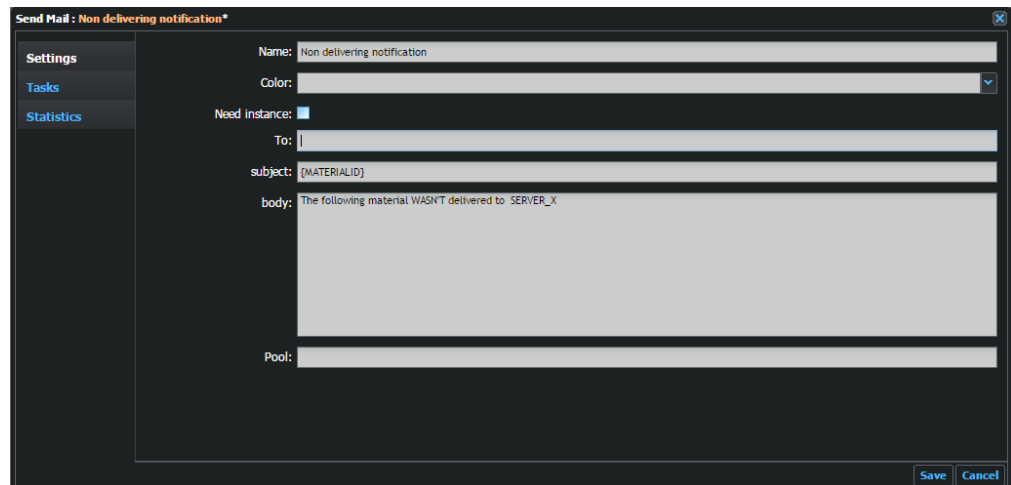

Fig. 3-99: Example Send Mail Element Settings
- 3 Double-click the element to modify the element settings, see Figure 3-99.